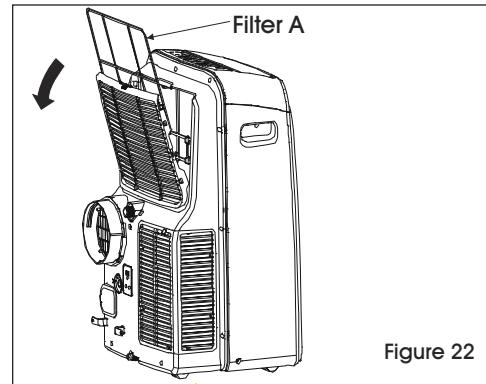

Figure 22
- This unit has two filters: filter A and B. Grasp the upper panel tab and take off filter A behind the grill of the back panel. (See Figure 22)